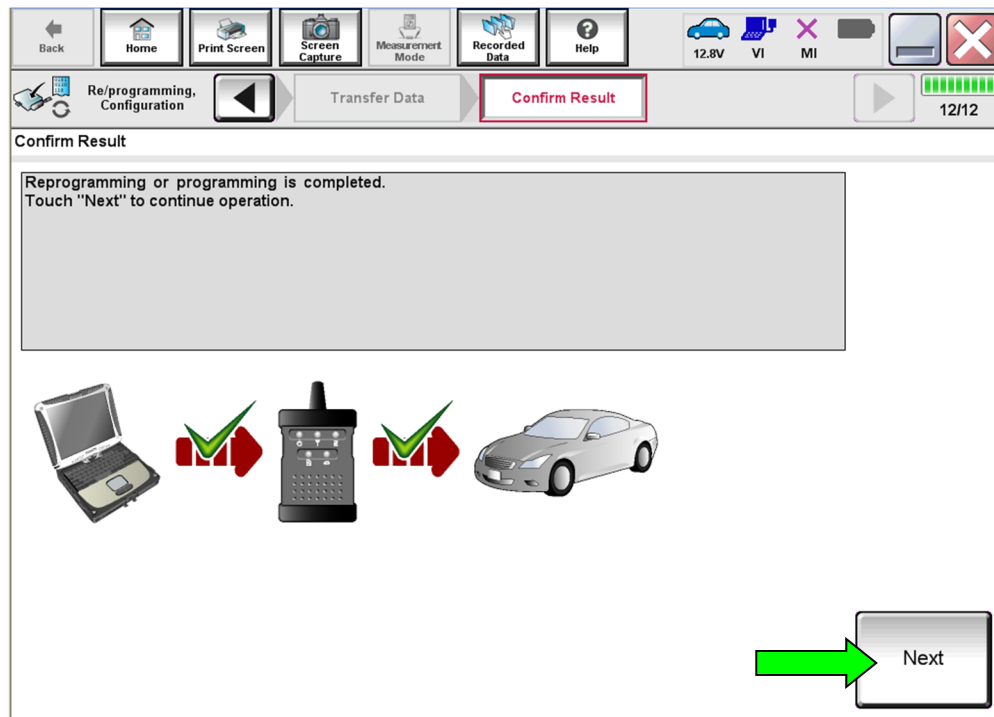

Figure 29
46. When the screen in Figure 29 displays, reprogramming is complete.
HINT: If the screen in Figure 29 does not display (indicating that reprogramming did not complete), refer to ICC/ADAS recovery on the next page.